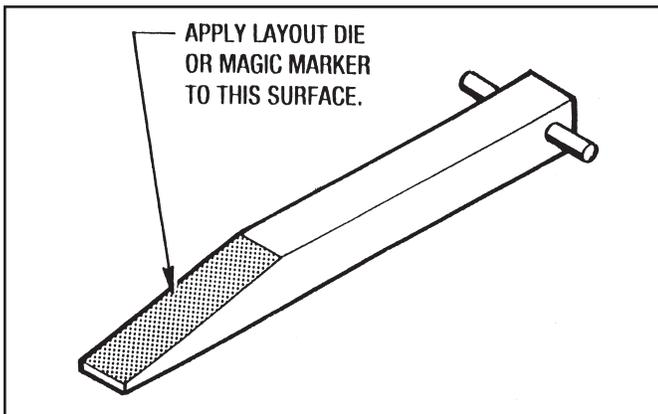

Figure 9.10 - Gap Tool
To measure the Piston Stroke a Gap Tool, as shown in Figure 9.10, must be used. To order this Gap Tool from the Force Control factory use (Part No. 601-11-001).
- Apply machinist's fast drying layout die or (use a black magic marker) to the sloping surface of the Gap Tool as shown in Figure 9.10.